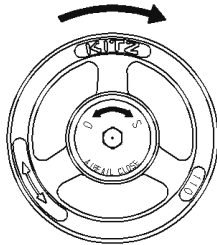

Fig.13
- (1) Rotate the handwheel of a FSW manual operator unit clockwise till it completely stops (**Fig.13**).